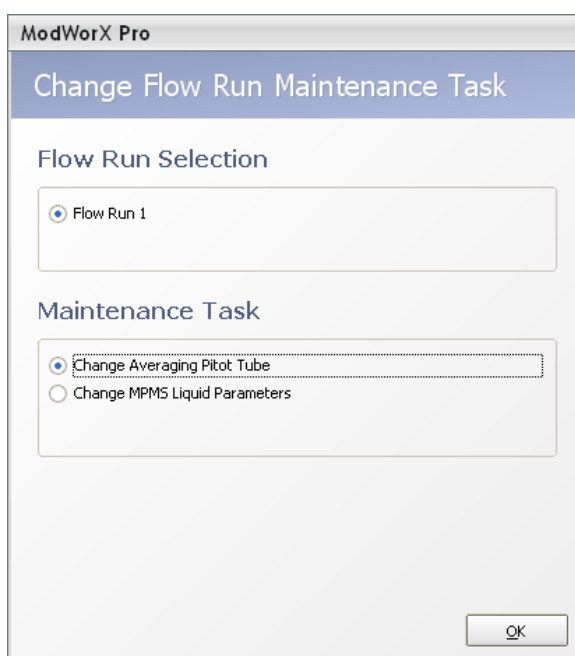

Figure 11.11
1. If Change MPMS Liquid Parameters is not displayed in the Maintenance Task field at the top of the Maintain Flow Run screen, click on **Change Task**. The Change Flow Run Maintenance Task dialog will appear (Figure 11.11).